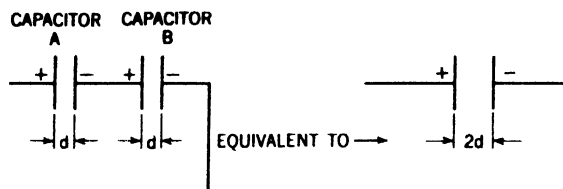

Fig. 33-8. Diagram showing the effect of two capacitors in series.
**Capacitors in Series.** When two or more capacitors are connected in series, the total capacitance is less than that of the smallest capacitor in the circuit. Figure 33-8 shows why. You can see that the effect of connecting two capacitors A and B in series, each with a dielectric thickness of  $d$ , is the equivalent of having one